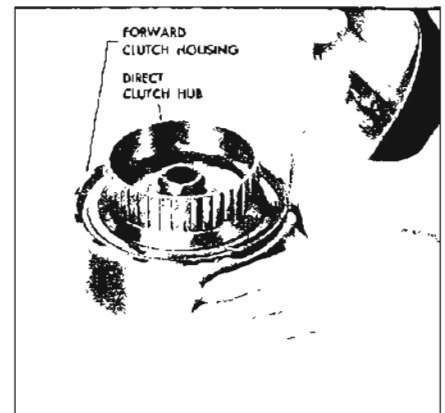

Figure 5-600
1. Remove the forward clutch housing to direct clutch hub snap ring. See Figure 5-600.